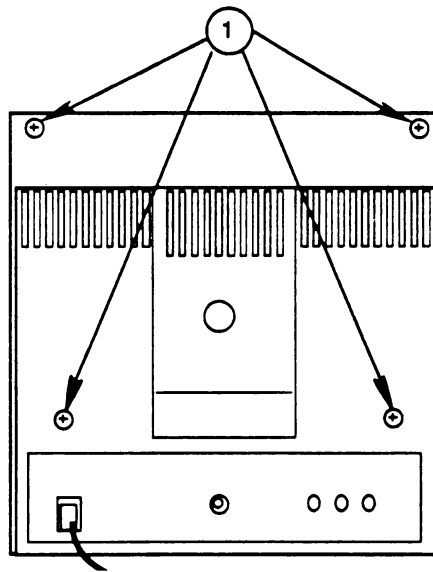

FIGURE 2
4. Remove the four screws (Figure 2, #1) from the back of the monitor.